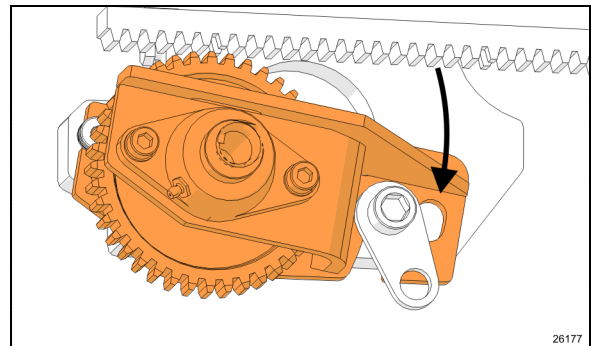

FIGURE 37: PINION ASSEMBLY ROTATION
3. Rotate pinion assembly down. (Figure 37)